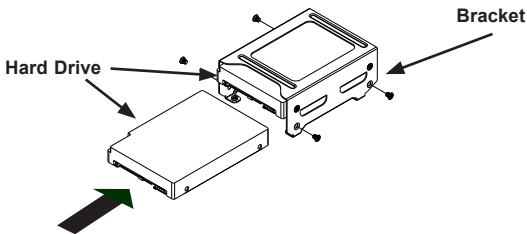

Figure 6-3. Installing Hard Drives into the Bracket
1. Identify the HDD bracket and secure the drive(s) to the bracket. (Figure 6-3).